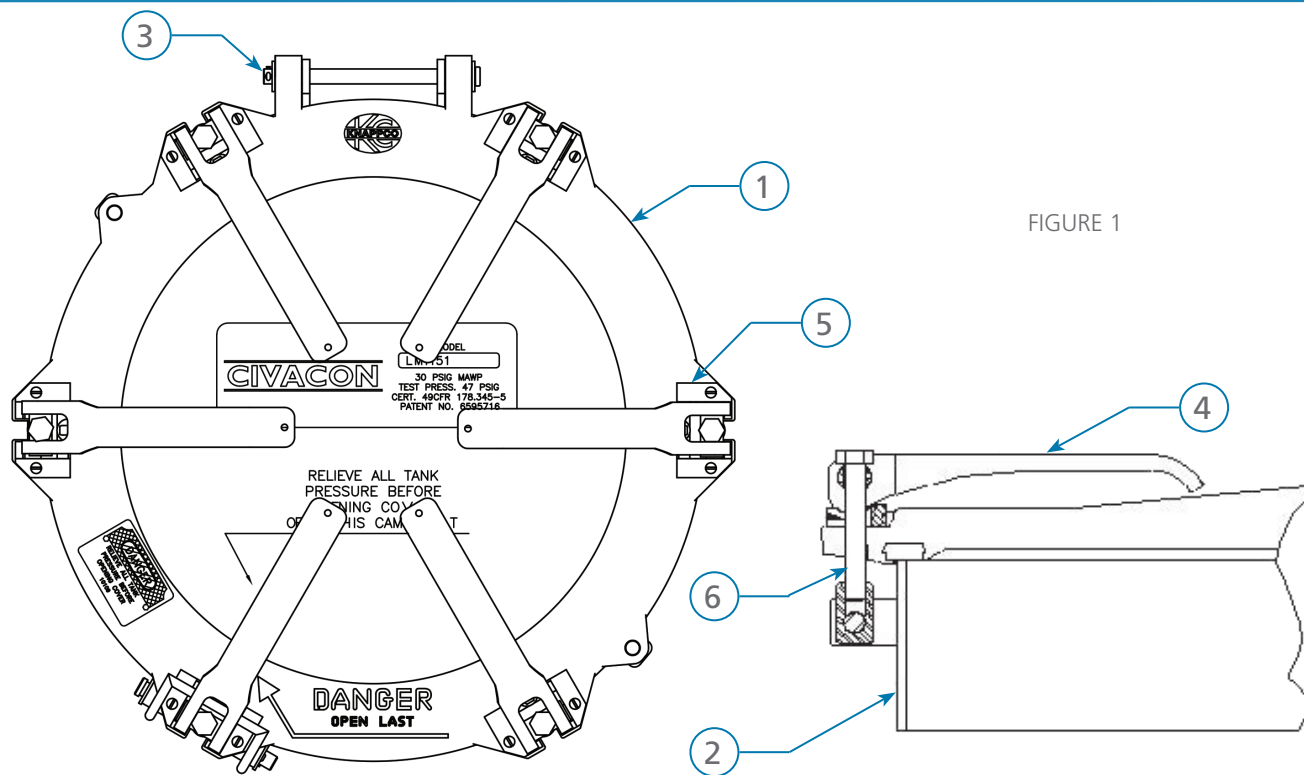

FIGURE 1
- STEP 1: See Figure 1. After cover (1) is installed on weld ring (2) with hinge pin (3), position cam levers (4) on cover and close cam at each hold-down position. Minimal friction resistance between bottom of cam and top of wear plate (5) should be evident. See (FIGURE 1)
- STEP 2: Insure upper pivot pin is centered between cam lever "ears". Use socket wrench to tighten cam adjustment bolt (6) on top until gasket and weld rings top surface make contact at each of the six cam locations
- STEP 3: To insure a good peripheral sea tighten each cam adjustment bolt (6) shown in FIGURE 1 to 13 lbs-ft (up to 16 lbs-ft). Cam tightening order should be done in a star pattern which is shown in FIGURE 2. Tighten starting with cam number 1 and move sequentially to cam number 6.